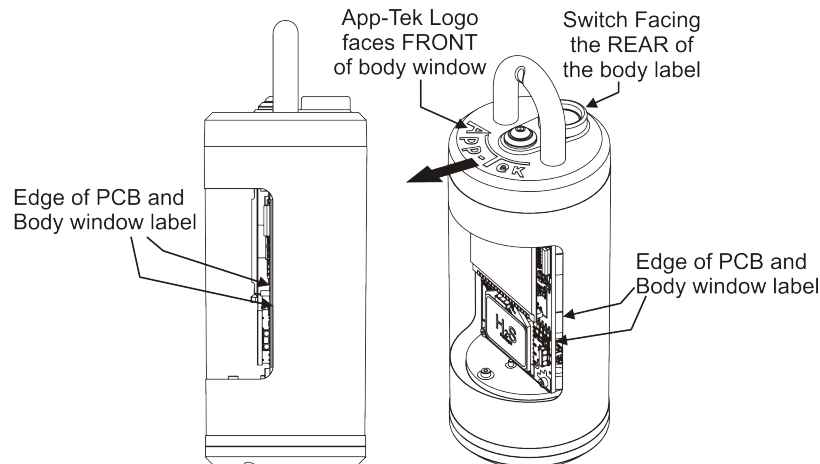

Figure 4 - Top Cap Alignment
- Carefully slide circuit board assembly and end cap back into the body, aligning the top cap and body correctly (see Figure 4)
NOTE: Ensure the Top Cap is aligned correctly - See Figure 4